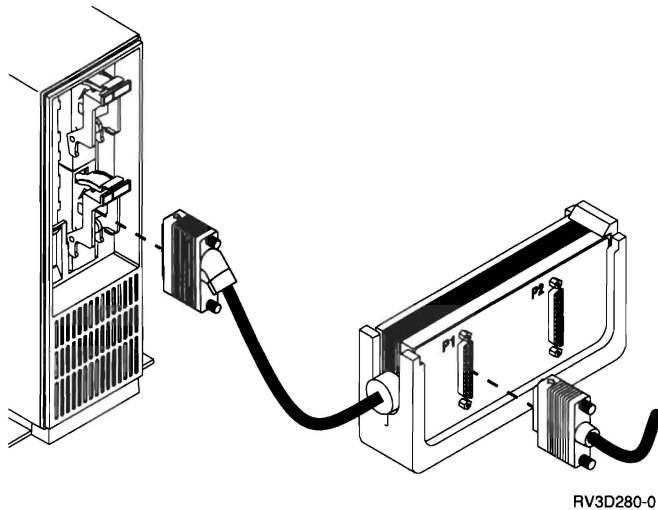

Figure 4-2. Card Type 2609 in Position B for Twinaxial, ASCII, or Client Access/400 Console as the System Console.
- 7** Connect the cable attachment cable to the adapter card in position B (see Figure 4-2). Be sure to tighten the thumbscrews.
8 Connect the system-unit end of the modem cable to connector P1 of the cable attachment cable (which is connected to the adapter card in position B). See Figure 4-2 on page 4-3. Be sure to tighten the thumbscrews.